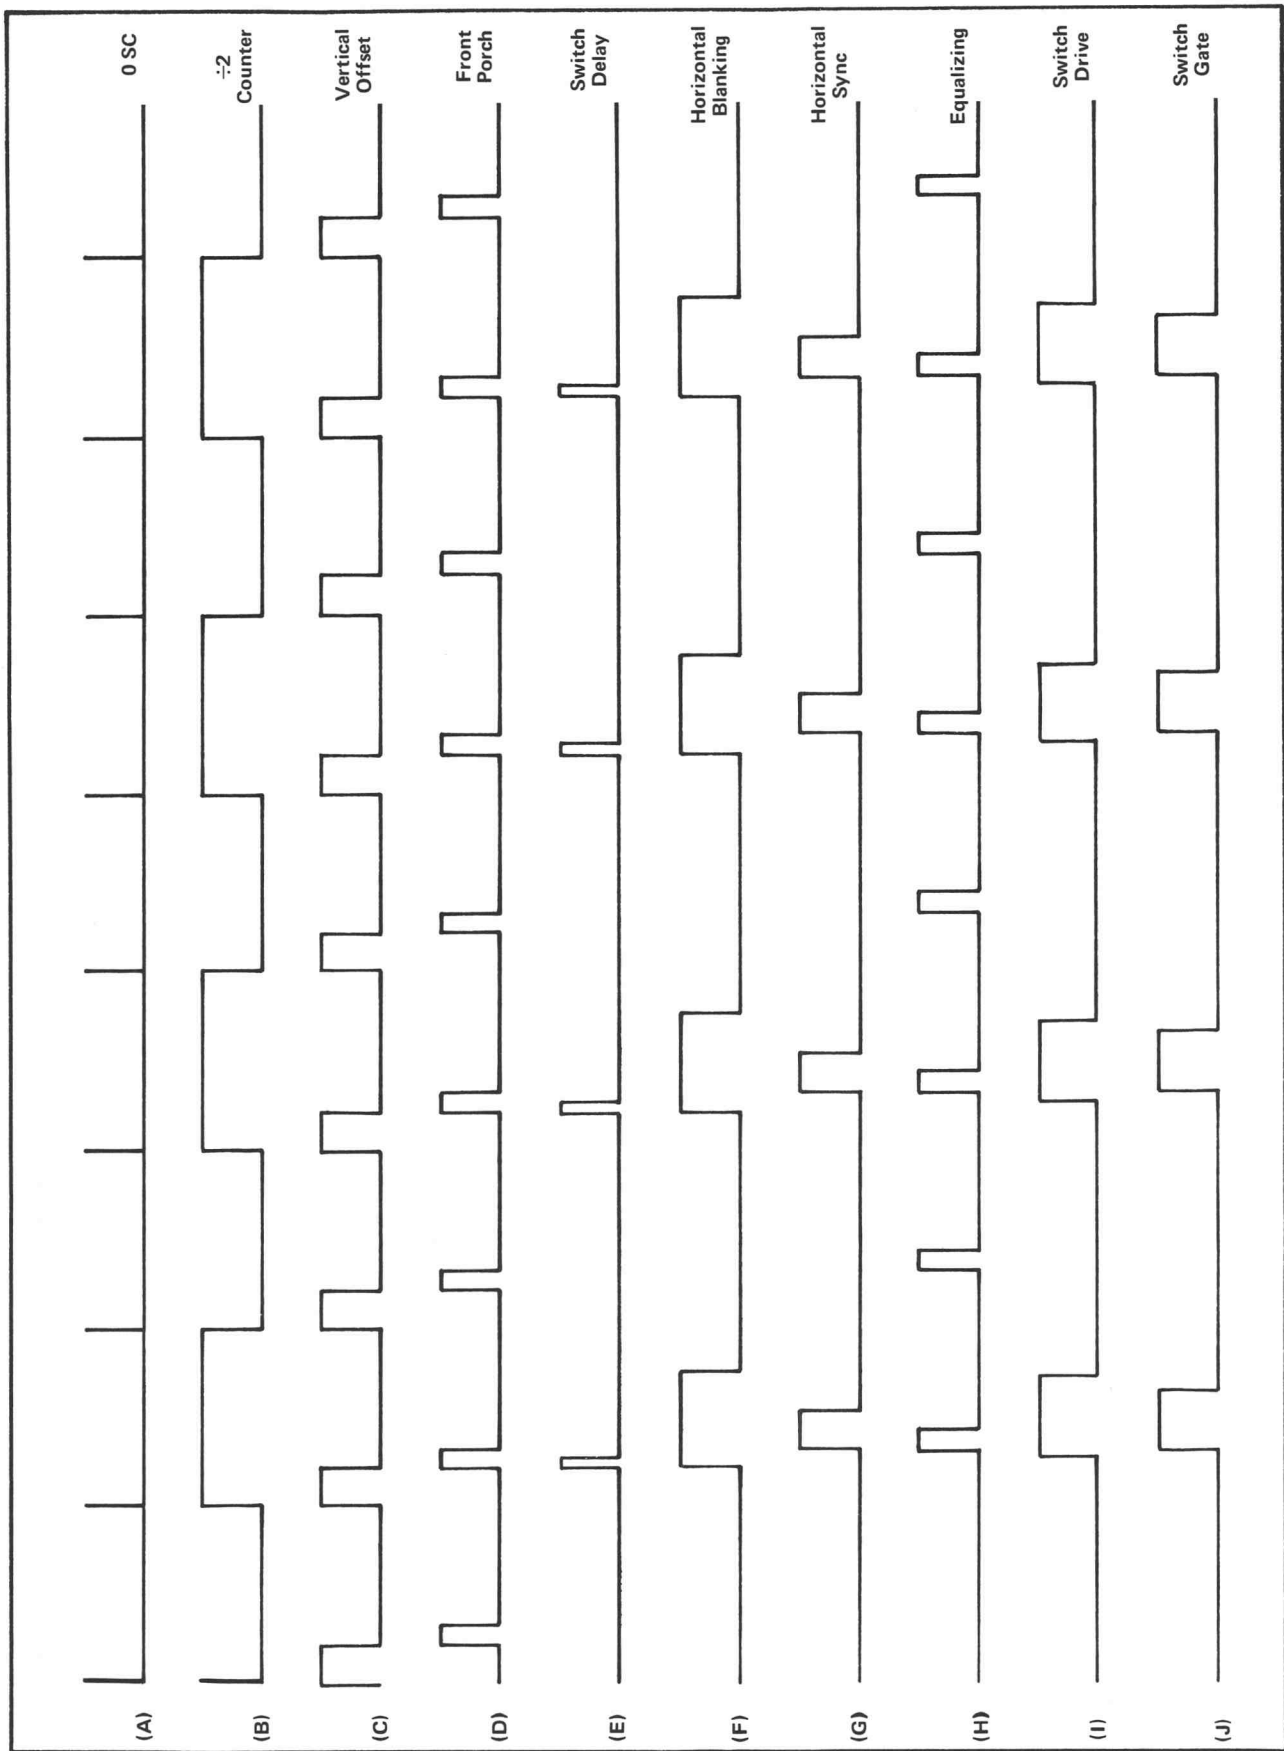
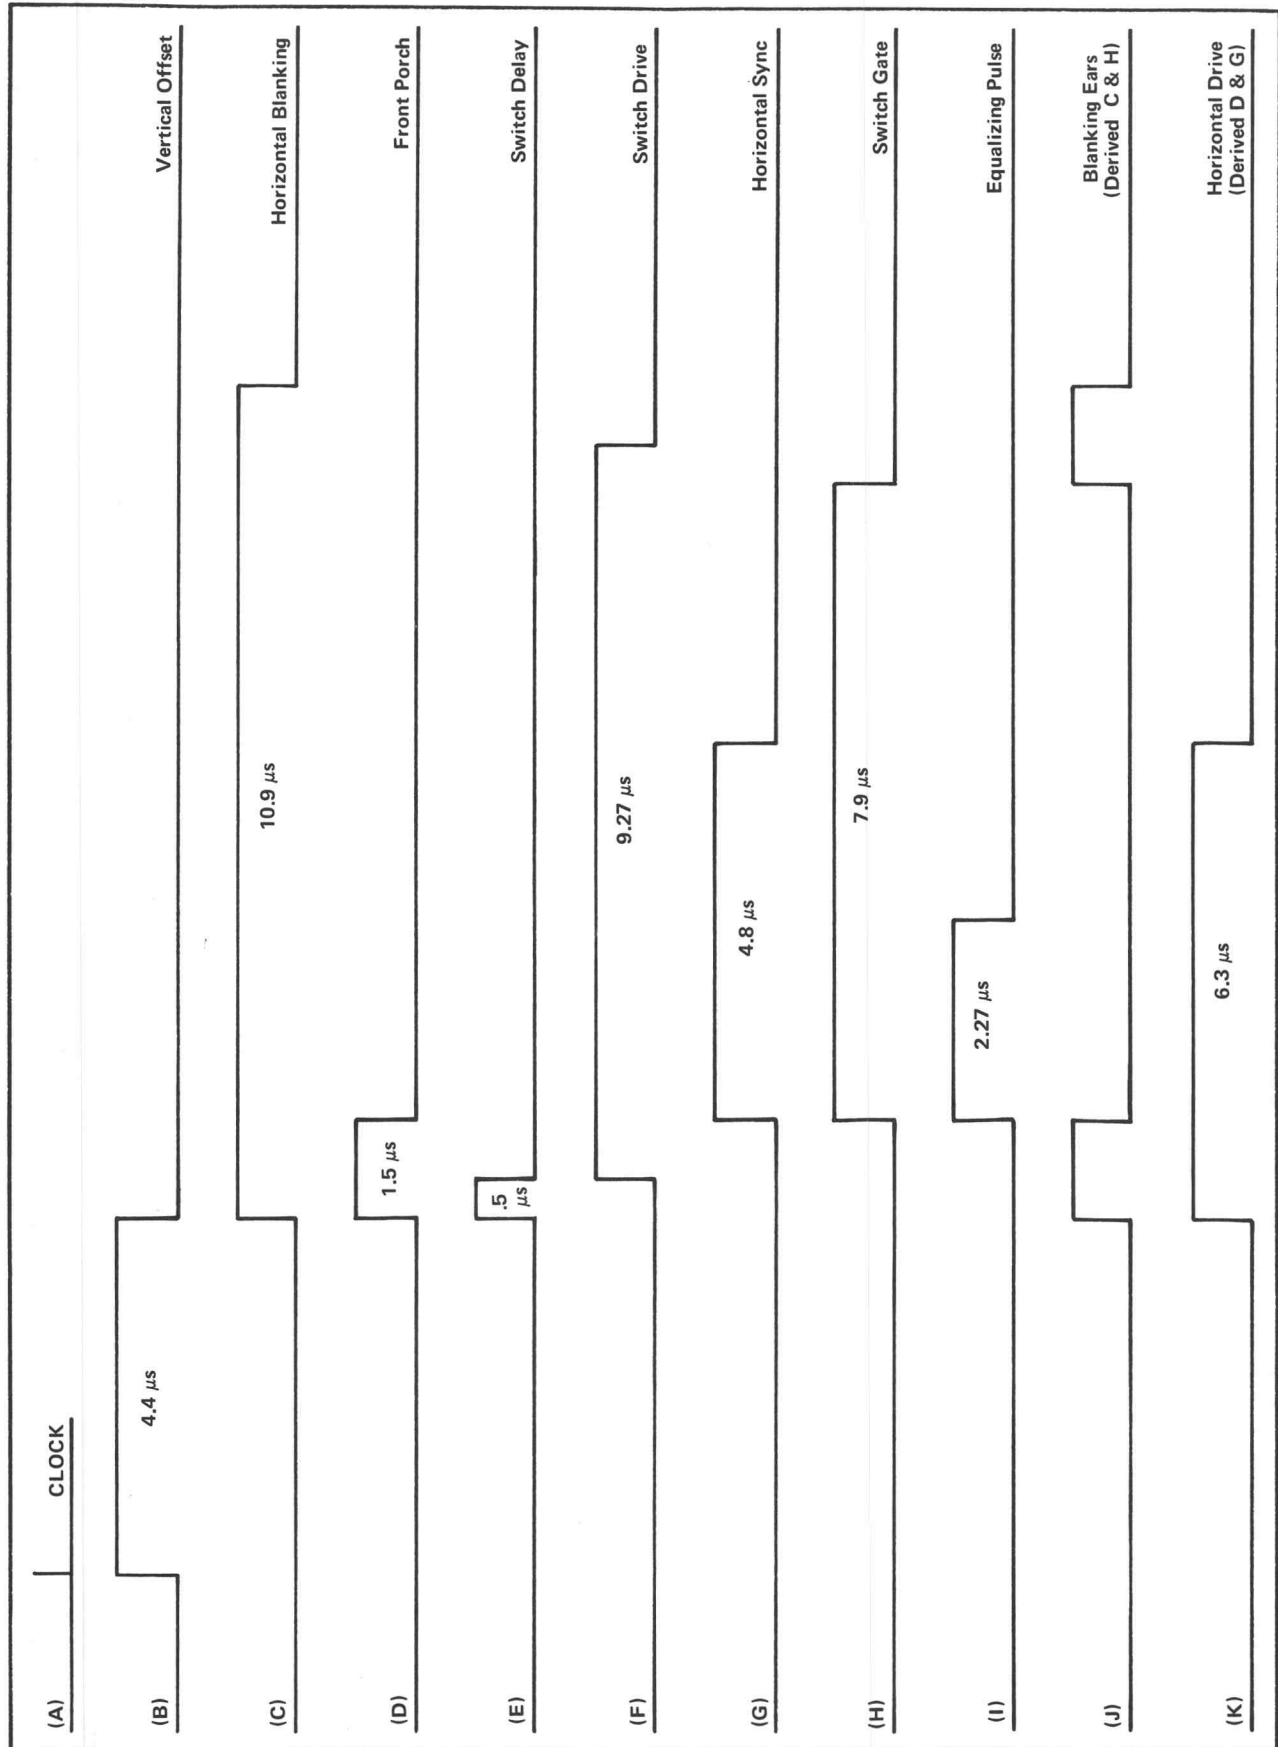

Fig. 3-4. Waveforms illustrating the time relationship of the multivibrators, oscillator, and -2 counter outputs.
Fig. 3-5. Waveforms illustrating the time duration of the multivibrator outputs in the Read Raster circuit.
The clock pulse, which is occurring at a 31.5 kHz rate, is applied to pin 2 of U92A. U92A and U9E form the vertical offset multi. The timing capacitor and resistor for the multi are C92 and R92. Fig. 3-4 illustrates the time relationship of the multivibrators, the clock, and the $\div 2$ counter. Fig. 3-5 illustrates the time duration of the multivibrators, the blanking ears (which are derived from the horizontal blanking and switching gate), and the horizontal drive pulse (which is derived from the horizontal sync and the front porch). The primary purpose of the vertical offset pulse is to develop the serrations in the vertical sync pulse. The vertical offset pulse is coupled from pin 6 of U9E to pin 1 of U46A and to pin 6 of U43B. Pin 7 of U43B is connected to pin 3 of U5C, which remains in the 0 state when there are no external sync and blanking inputs. Therefore, the vertical offset pulse is coupled through and inverted by U43B and applied to pin 7 of U92B. Pin 6 of U92B is connected to ground through R135 and, since no external sync and blanking inputs are being coupled into the circuit, pin 6 is at ground potential or in the 0 state. Therefore, the vertical offset pulse is inverted by U92B and appears as a positive-going pulse on pin 5 of U92B. The pulse is differentiated by C94 and R94, then coupled through inverter U5F to the inputs of the front porch, switch delay, and horizontal blanking multivibrators. The one-shot multis in the Read Raster circuit require a positive-going trigger; therefore, the multis (front porch, switch delay, and horizontal blanking) trigger on the trailing edge of the vertical offset pulse. See Fig. 3-5.
The horizontal sync multi is being triggered at two times the television horizontal frequency; therefore, the output of the multi must be divided by 2. This is accomplished by applying the clock pulse from the oscillator (pin 14 of U3E) to pin 2 of U39A, a $\div 2$ counter. The output from pin 14 of U39A (B of Fig. 3-4) then is coupled through inverter U48C, and is applied as an inhibit signal to pin 9 of U94C. When pin 9 of U94C is in the 1 state, the output of the multi will be in the 0 state regardless of the trigger being applied to pin 12 of U94D. By referring to Fig. 3-4 B, D, and G, it can be determined that the output of the horizontal sync multi is inhibited on every other trigger input (front porch) and the output is at the television horizontal rate.
The output of the horizontal sync multi is coupled to pin 13 of U8D. U8D and U8C form the one-shot to develop the switch gate (j of Fig. 3-4). The timing capacitor and resistor for the multi are C99 and R99.
The positive-going pulse that triggers the front porch multi also triggers the switch delay multi and the horizontal blanking multi (Fig. 3-5 C and E). The timing capacitor and resistor for the switch delay multi are C110 and R110. The timing capacitor and resistor for the horizontal blanking multi are C145 and R145. Both multis are inhibited on every other trigger pulse (Fig. 3-4 C, E, and F) in the same manner as previously described for the horizontal sync multi. The output of the switch delay multi is coupled through a differentiator, C112 and R112 and through inverter U5D. It then triggers the switch drive multi (Fig. 3-5 E and F). The timing capacitor and resistor for the multi are C114 and R114.
horizontal sync pulse and the front porch pulse are combined in U6D to form the horizontal drive pulse at the output of U6D (14); see Fig. 3-5 K. The pulse is coupled through inverter U48E to the base of Q70B. The signal is coupled through the amplifier and appears at the connector on the rear panel as a negative-going pulse from approximately +0.6 V to -5 V in amplitude.